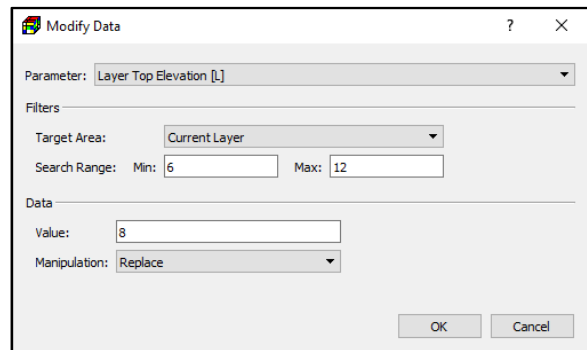

Figure 32. The Modify Data dialog box
3. **Modify:** Open the Modify Data dialog box (Figure 32). This allows you to modify or delete cell values of the current layer.